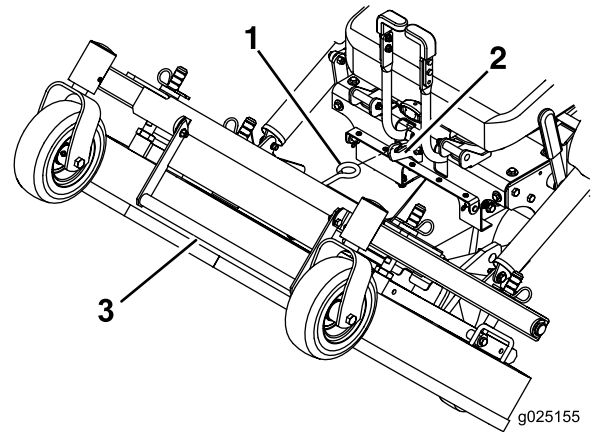

Figure 22
6. Using deck-lift handle, lift deck up and latch in up position (latch is located at front center of seat) (Figure 22).
1. While firmly holding onto deck-lift handle, unhook mower deck latch from the machine and slowly lower mower deck to the ground (Figure 22).